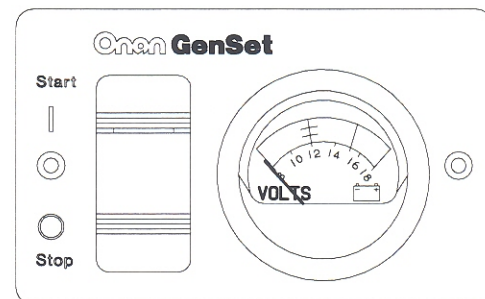

FIGURE 20. REMOTE SWITCH / DC VOLTMETER
- Start/status lamp and DC voltmeter (Figure 20).